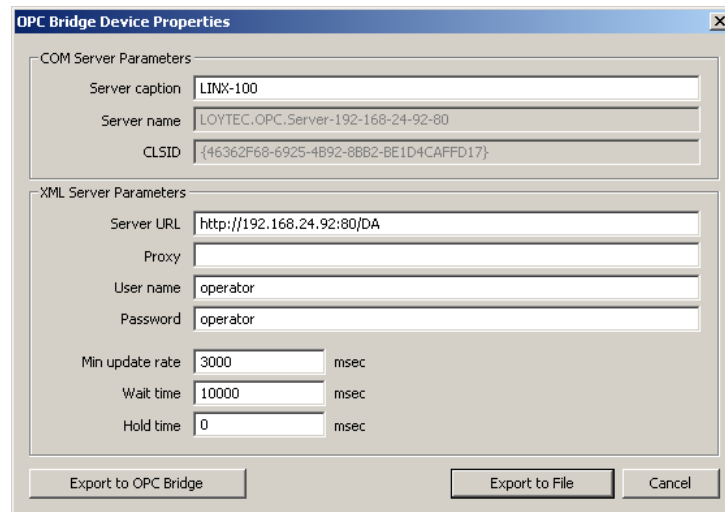

Figure 123: Bridge Export dialog.
4. In the **OPC Bridge Device Properties** dialog as shown in Figure 123, add information which is not default, i.e., Min update rate, Wait time and Hold Time (see Section 9.3.6). If the operator user has a non-default password, enter the password.